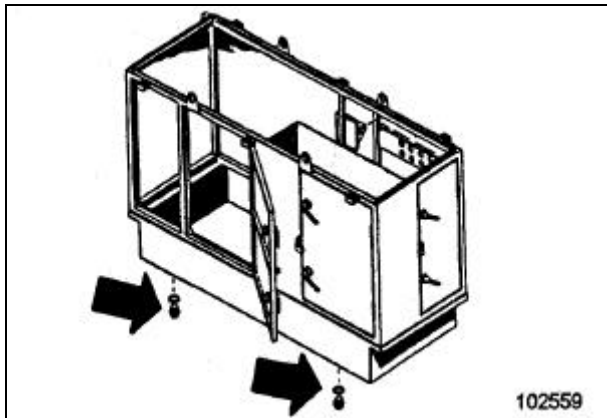

Fig. 13
Check switchgear cabinet (Fig. 13) for condensation.
Unscrew drain plugs (arrows, Fig 13) and drain off water.
**The base of the switchgear cabinet (Fig. 13) must be kept clean.**